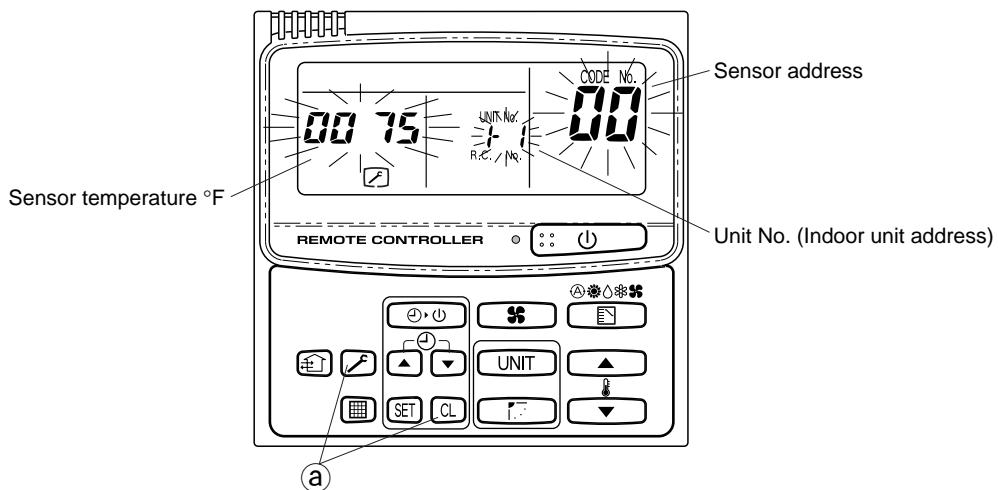

Fig. IV-4
- ⓐ On the remote controller, press both **F** and **CL** buttons at the same time for more than 4 seconds. (Ref. Fig. IV-4)
- Each time you press the **▲**, **▼** (**腠**) button you can select a different sensor, and the display shows the sensor address and temperature as shown Fig. IV-4.